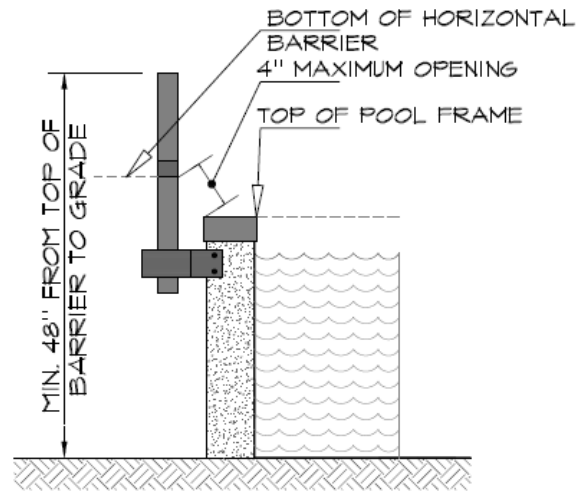
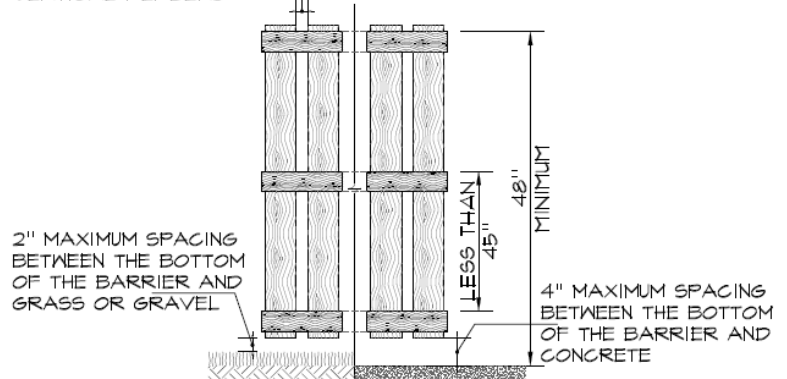

Figure 2
Figure 3
1. The top of the barrier shall be at least 48" above grade, measured on the side of the barrier which faces away from the swimming pool. The maximum vertical clearance between grade and the bottom of the barrier shall be 2 inches for grade surfaces such as grass, mulch, and gravel, and 4" for solid surfaces such as concrete, **See Figure 3**. Where the barrier is mounted on top of the pool structure, the maximum vertical clearance between the top of the pool structure and the bottom of the barrier shall be 4 inches. **See Figure 2**.
See Figure 3.